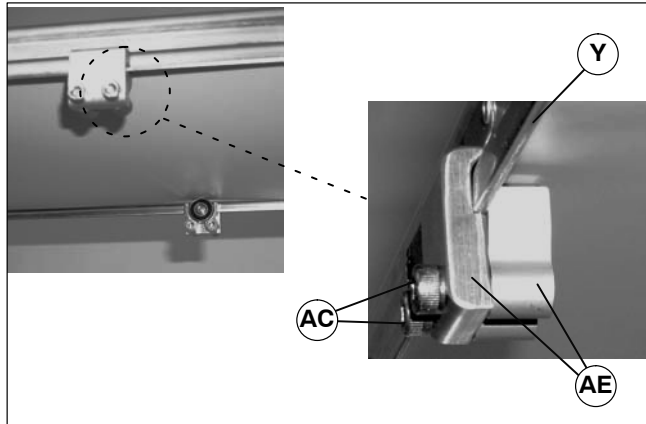

Figure 14
3. Attach return roller assembly (AE of Figure 14) on each side of conveyor (Y). Tighten screws (AC) to 80 in-lb (9 Nm).